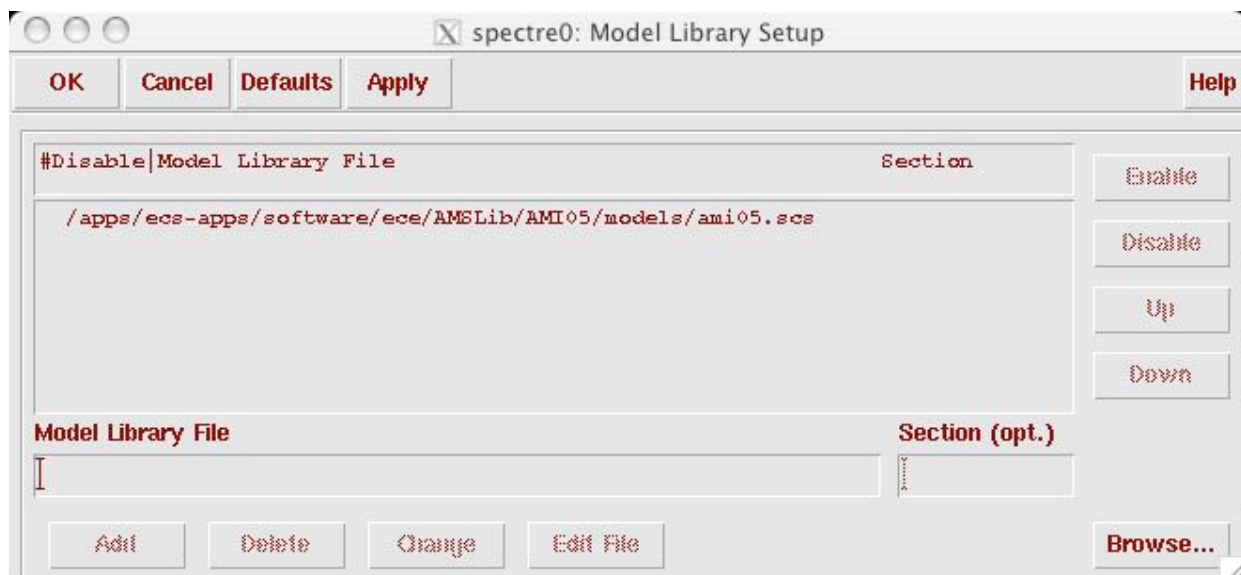

Fig. 18. Adding model path.
**Step 10:** In the *Analog Circuit Design Environment* window, go to **Setup... → Model Libraries...**, a *Model Library Setup* window appears. Click the **Browse...** button and then choose the models directory and then choose the ami05.scs model. Click **Add**, as in Fig. 18 and then click **OK**.